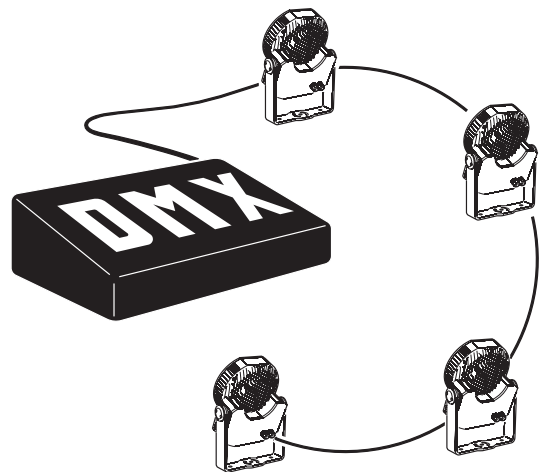

Figure 7: DMX link
- Fixtures must be 'daisy-chained', i.e. the data cable must be connected in one single chain of fixtures as shown in Figure 7.